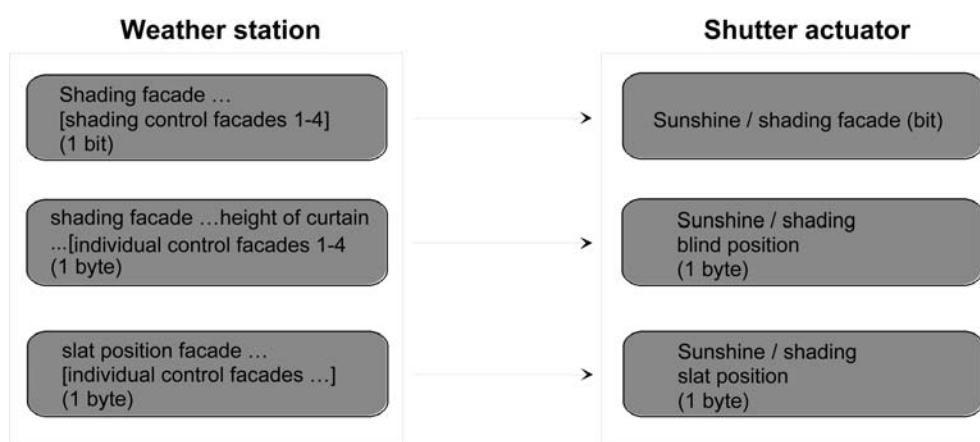

Figure 25: Programming of the communication objects for application example IV
- reaction at the beginning of sunshine / shading = variable blind position, variable slat position.(Figure 25)